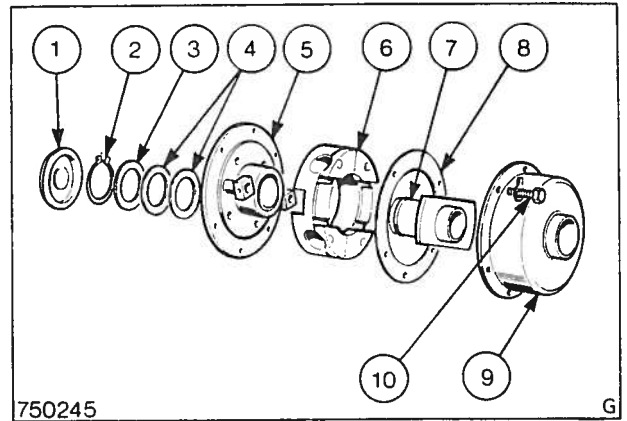

Fig. 24 Exploded view of auto-advance unit
3. Remove the circlip from the driven flange, washer and shims, Fig. 24.
3. Fit a new joint on to the driving flange and refit the cover, fit the retaining bolts with new lockwashers, tighten and secure the locking tabs, Fig. 24.